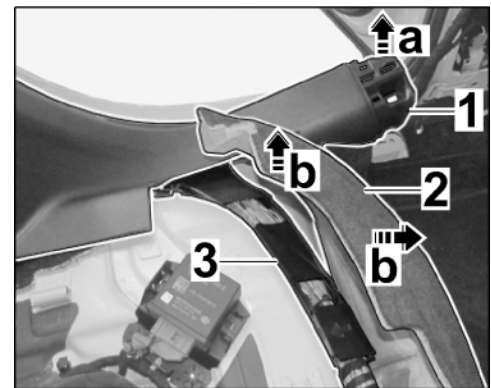

Figure 4
- 1.7.2 Loosen (unclip) (inner) door sill trim on the left in the front area. ⇒ *Figure 4 -a-*
- 1.8 Lift carpet in front of the rear seat (⇒ *Figure 4 -b-*) and expose the cable duct. ⇒ *Figure 4*